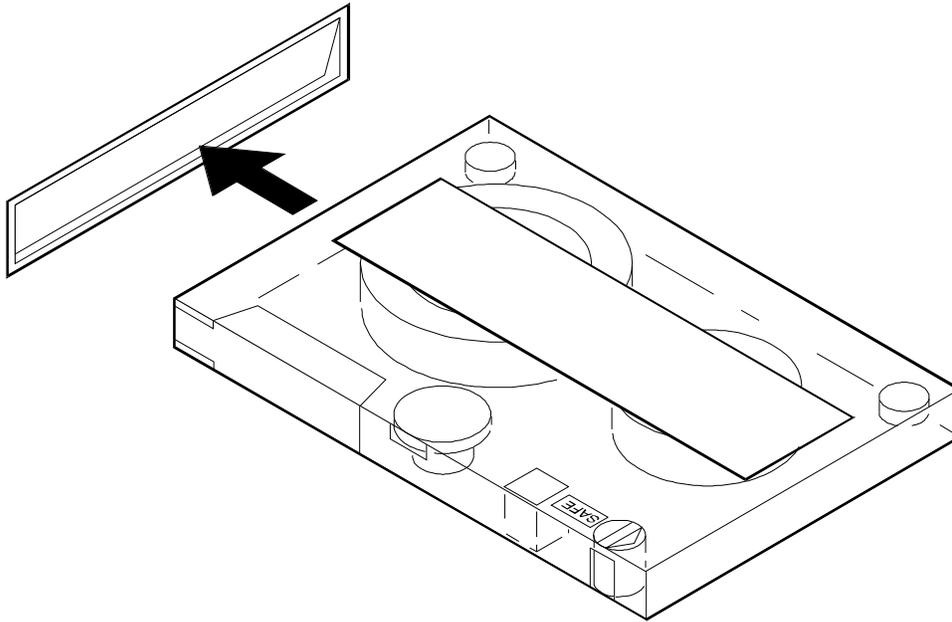

Figure 3-5. Tape Insertion with a 525-Mbyte Tape Drive
3. Insert the tape firmly and the door locks automatically (Figure 3-5).